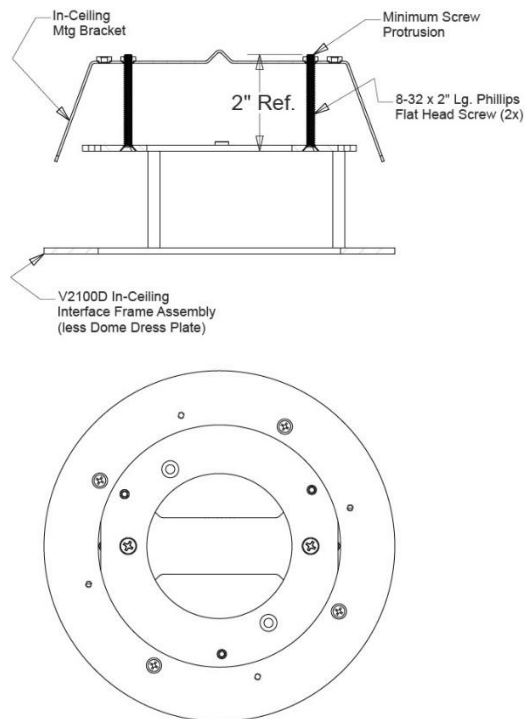

Figure 3
3. Attach the in-ceiling mounting bracket to the interface frame assembly using the two (2) 8-32 x 2" flat head screws provided; be sure that only a short portion of the flat head mounting screws protrudes through the in-ceiling mounting bracket. Refer to Figure 3.
8. As an option, and if there is access to the rear of the ceiling, it may be easier to install the camera base and the V2100D-ICH on the bench as per Figure 3 after the hole is cut in the ceiling tile. Camera setup as the Quick Guide still has to be done in the final installed position.